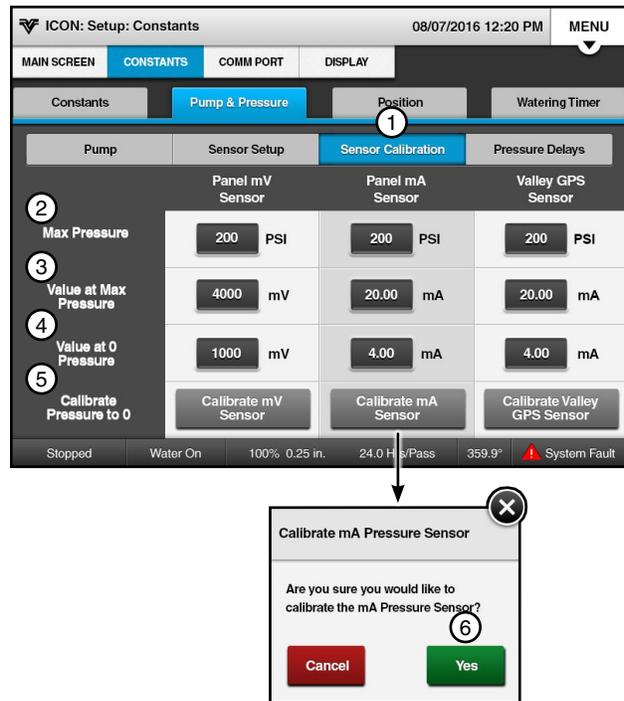

Figure 38-1
3. Calibrate pressure sensors. See Figure 38-1.